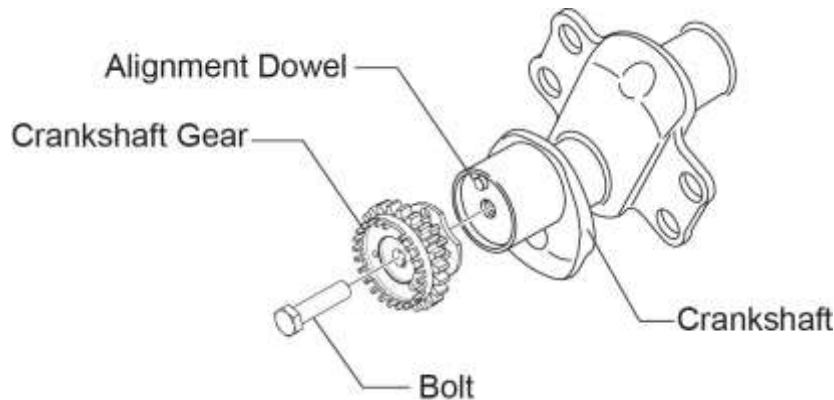

Figure 112
- E. Remove the Idler Gear Assembly Aid (ST-532) and install the crankshaft gear bolt in the crankshaft (Figure 112).
- G. Initially torque the crankshaft gear bolt (Figure 112) to 125 in.-lb. (14.12 Nm) torque.